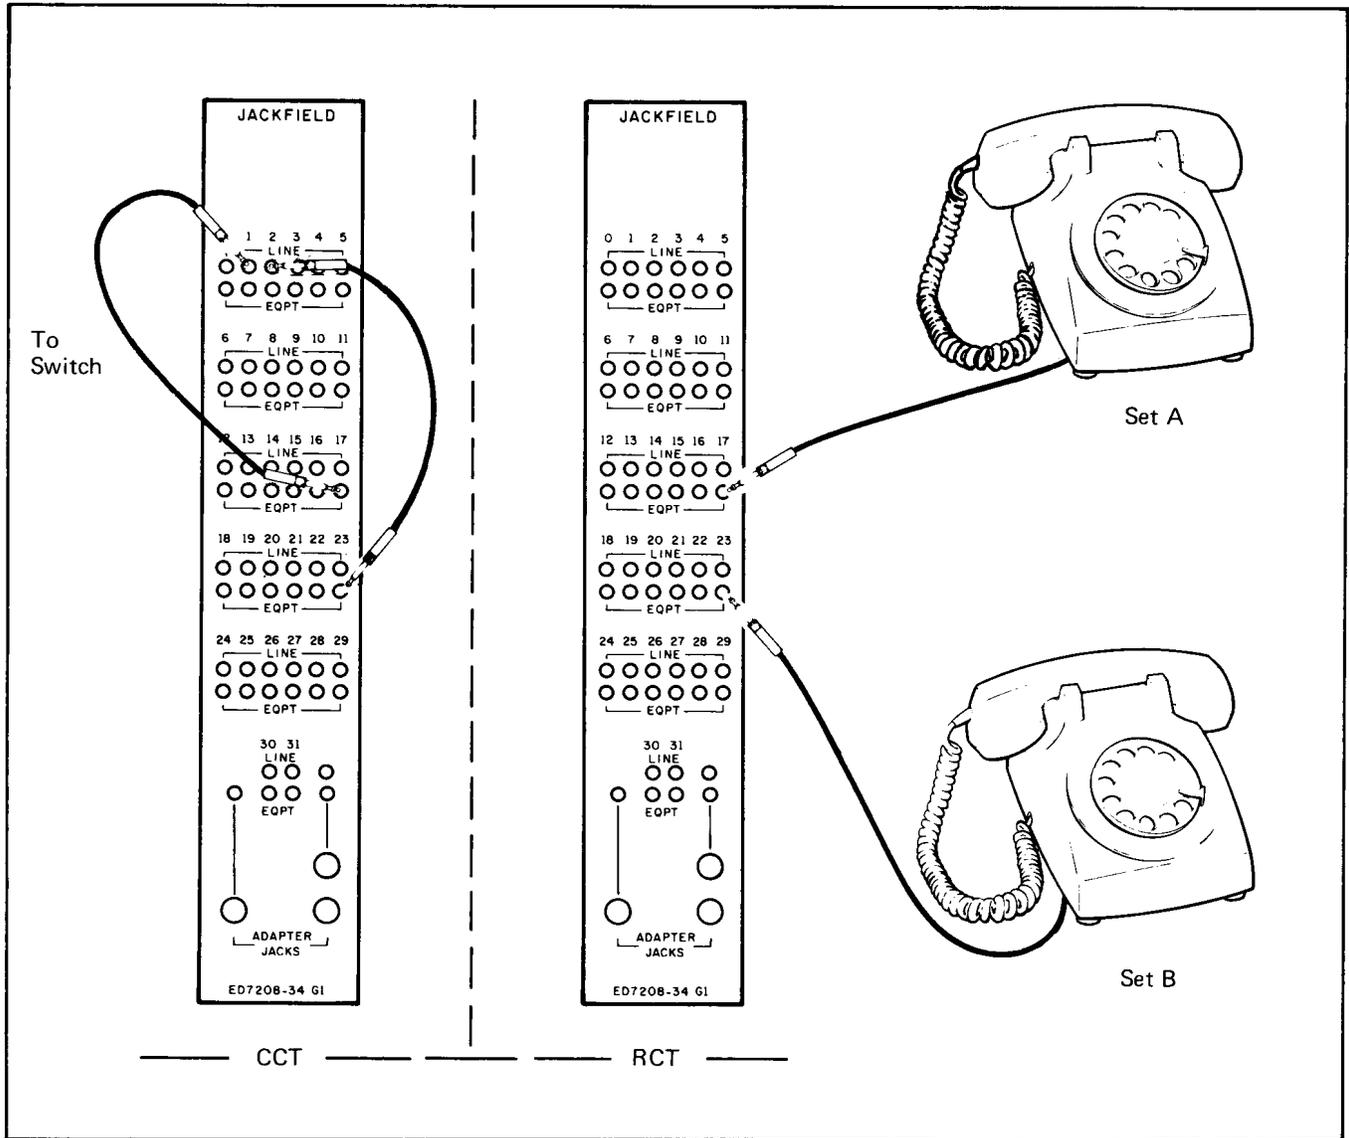

Fig. 1 — Signaling Test Connection (Chart 1)
6	At the RCT, choose any single-party (or coin) line. Connect a telephone set (set A, Fig. 1) to the EQPT jack for the chosen line on the jackfield of the applicable line shelf.
8	At the RCT, choose another line for test, and connect a telephone set (set B, Fig. 1) to the EQPT jack of the chosen line on the jackfield of the applicable line shelf as follows: <ul style="list-style-type: none"> (a) if the line position is equipped with single-party type line cards at the CCT and RCT, use a single-party telephone set, or (b) if the line position is equipped with multiparty-type line cards at the CCT and RCT, use a telephone set wired for tip-party service. (c) if the line position is equipped with coin-type line cards, use a coin telephone equipped as required (see APPARATUS).
10.4	On Set B, dial the directory number of line 1 on shelf 0 of the CCT (test line 1, Fig. 1). <p>Requirement: Set A rings.</p>
10.7	On set B, dial the directory number of line 1 on line shelf 0 at the CCT (test line 1, Fig. 1). Requirement: Set A rings.
10.10	On set A, dial the directory number of line 2 on line shelf 0 at the CCT (test line 2, Fig. 1). Note: If the line under test is a multiparty line, dial the directory number of the tip party on test line 2; dial the ring party when the test is repeated in accordance with Step 10.7. Requirement: Set B rings.